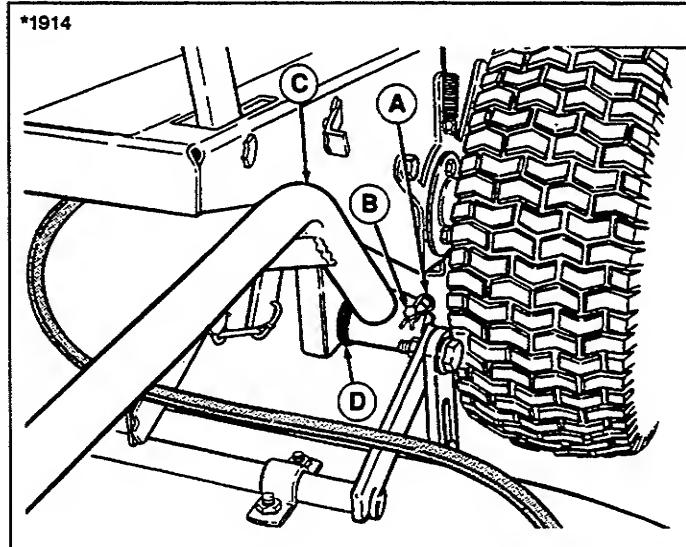

Figure 8. Hitch Arms
6. Install mower hitch arms to rider hitch arms. See figure 8. Make sure large washer (D) is placed on rider hitch arms. Secure with clevis pins and spring clips.
5. See figure 8. Remove the spring clips (A) and clevis pins (B) from mower hitch arms (C). Drop mower hitch arms and remove large washer (D) from rider hitch arm. For storage, install clevis pin (B) and spring clip (A) onto mower hitch arm with large washer (D) in between hardware.